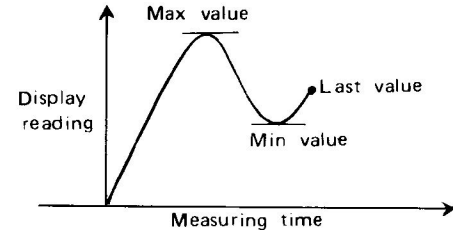

Fig. 2
- 6-1 A readout (the last value, max. value, min. value) obtained immediately before turning off the MEASURING BUTTON is automatically memorized. For example, please ref. following fig. 2.